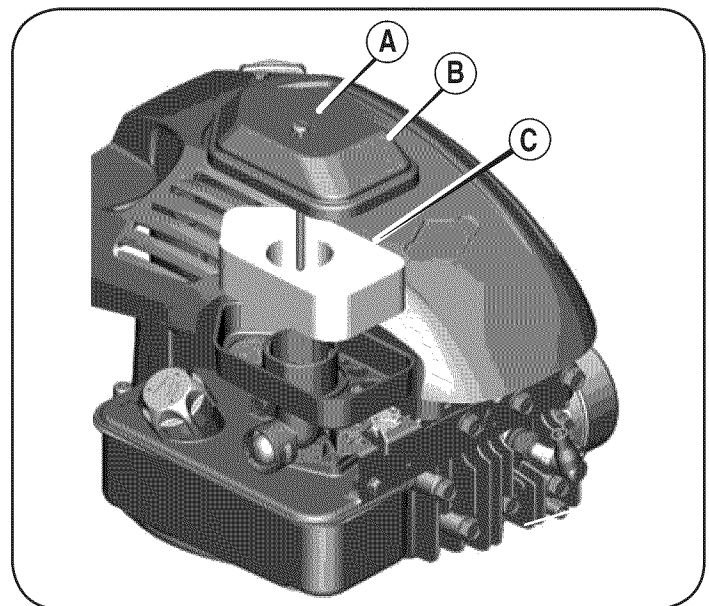

Figure 12
1. Remove the screw (A) from the top of the air filter assembly (B). See Figure 12.
3. Remove the foam element (C) from the air filter base.